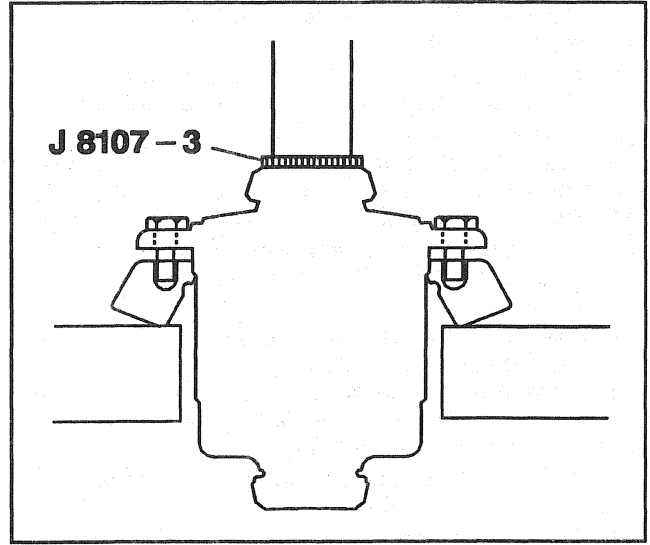

Figure 19—Installing the Ring Gear to the Case
- C. Press the ring gear onto the case far enough to start the bolts using J 8107-4 to protect the differential from the press ram (Figure 19).
6. Ring gear bolts (23).